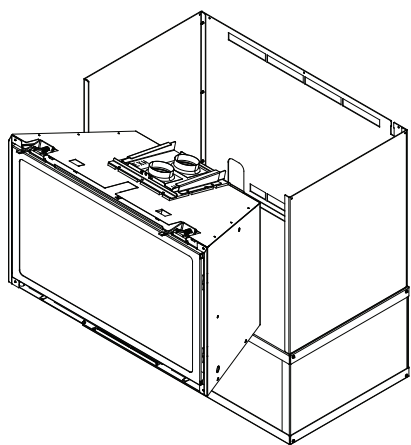

Figure 6.12
12. Install insert into cabinet by setting on cabinet lower top. See Figure 6.12.